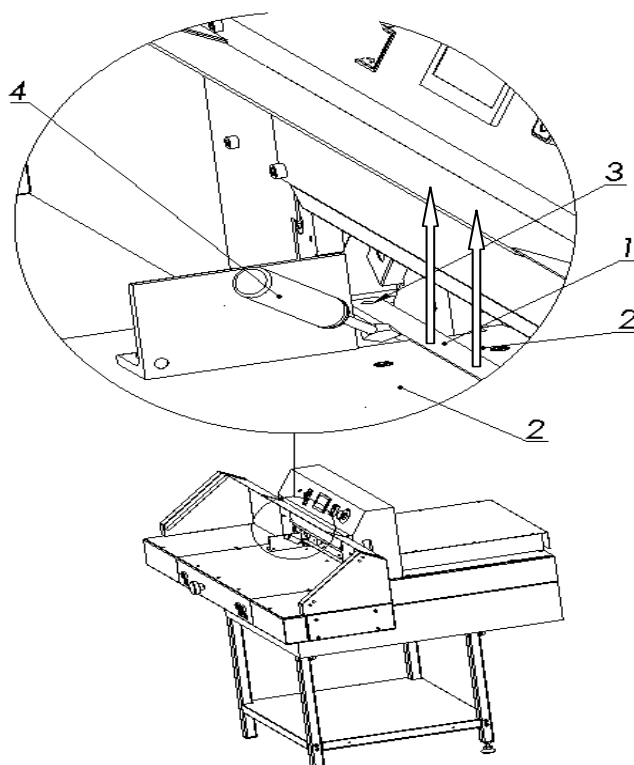

Figure 35. Removing the cutting stick.
8.2.1 Lift (lift) the cutting stick 1 with a screwdriver 4 (fig. 35)
8.2.3. Insert the replaced stick into the channel between the tables 2 and place it on the dowel 3 (Fig. 35)